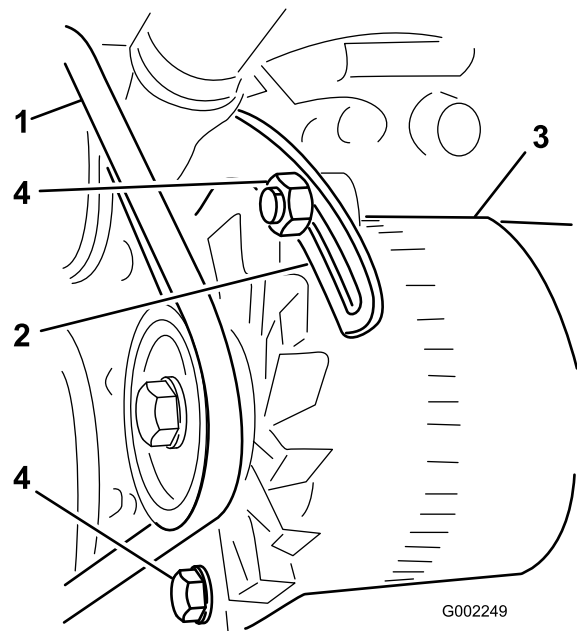

Figure 91
3. Loosen the bolt at the pivot point of the alternator; loosen the bolt that secures the alternator to the slotted brace (Figure 91).